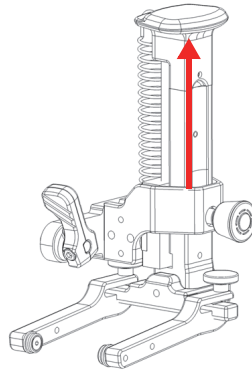

Figure 3-4 Sliding the rail to the locking position
9. To facilitate the installation, raise the probe holders by sliding the SLA rail up until it reaches the locked position (Figure 3-4 on page 65).